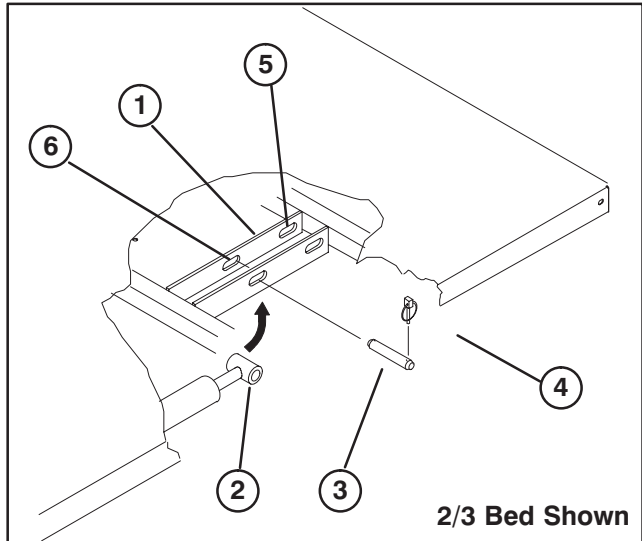

Figure 6
4. With bed lowered, secure each cylinder rod end, to appropriate slots in bed mounting plates with clevis pin and lynch pin. Insert clevis pin from outside of bed with lynch pin toward outside (Fig. 6). Rear slots are for full bed installation and front slots are for 2/3 bed installation.